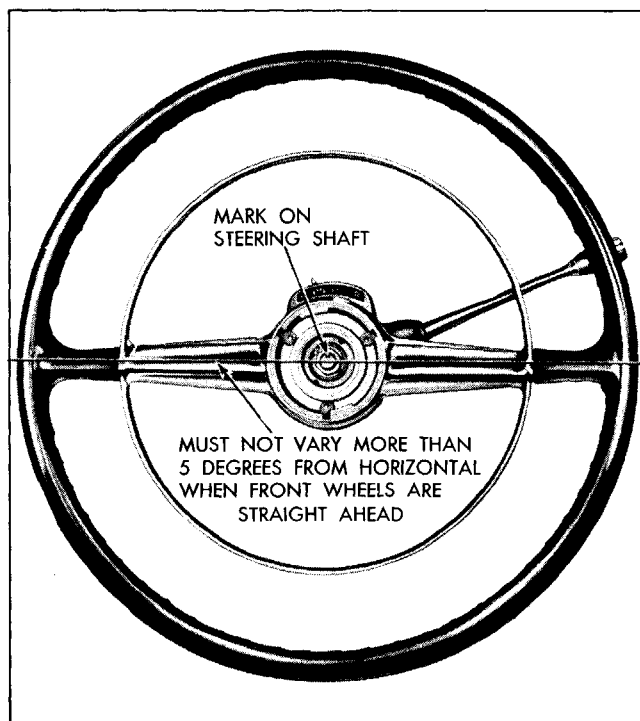

Fig. 9-7 Locating Steering Wheel Position
3. Reassemble steering connecting rod to pitman arm. Set spokes of steering wheel in straight ahead position (mark on steering shaft up, Fig. 9-7). If road wheels are not straight ahead, adjust steering tie rods as outlined on page 3-0.
4. To replace, reverse above procedure. Be sure wheel is in straight ahead position (Fig. 9-7). Tighten steering wheel nut to 25-30 lb. ft. torque. Tighten lock nut finger tight plus  $\frac{1}{4}$  turn.